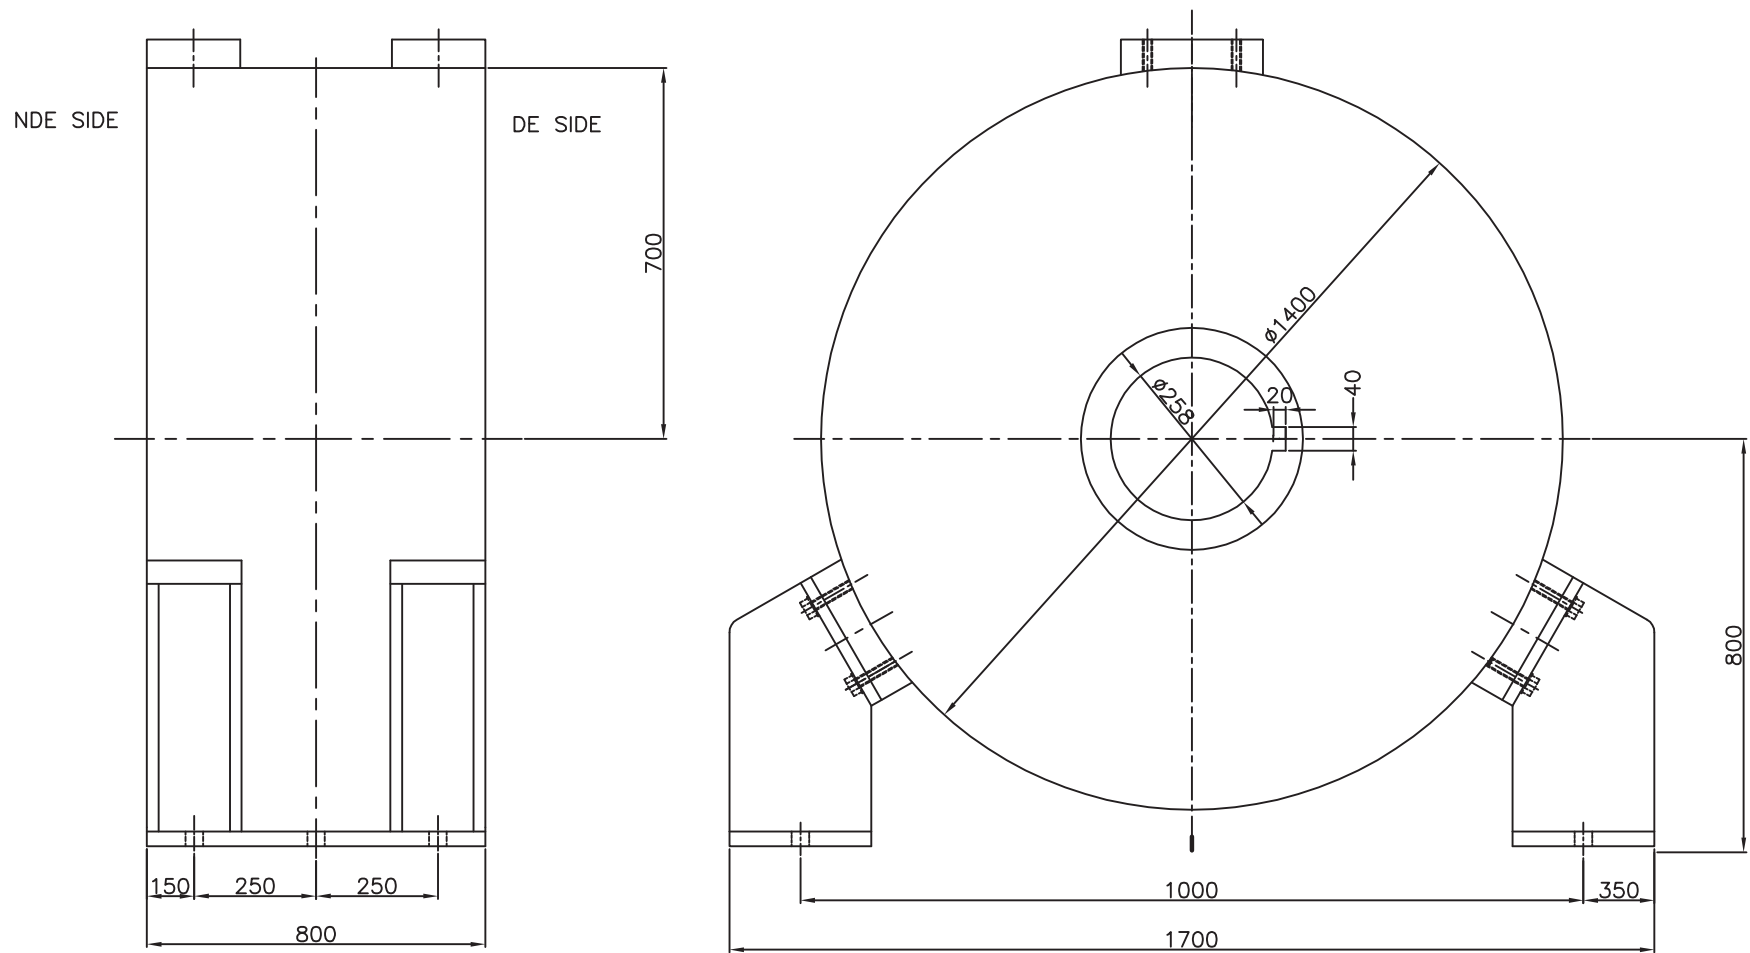

FIG.2: OVERALL DIMENSIONS OF 158kW SYNCHRONOUS GENERATOR
b. Dimensional Drawing of Drive Panel, Base frame, Regenerative Drive and other major components. Synchronous Generator Over all dimensions given in Fig. 2.